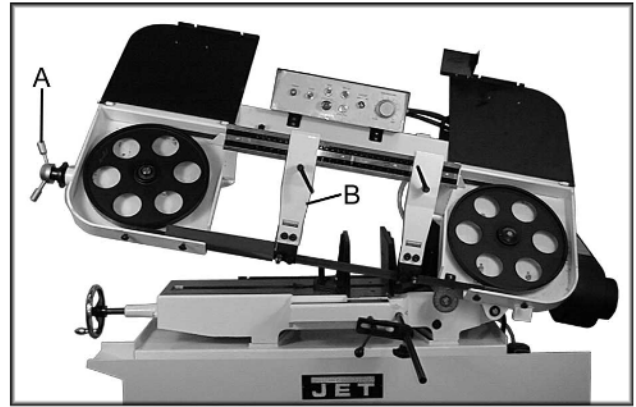

Fig. 8
4. Release blade tension by turning blade tensioning handwheel (A, Fig. 8) counter-clockwise until blade is free.
5. Loosen lock handle and slide left blade guide arm (B, Fig. 8) to the right as far as possible.